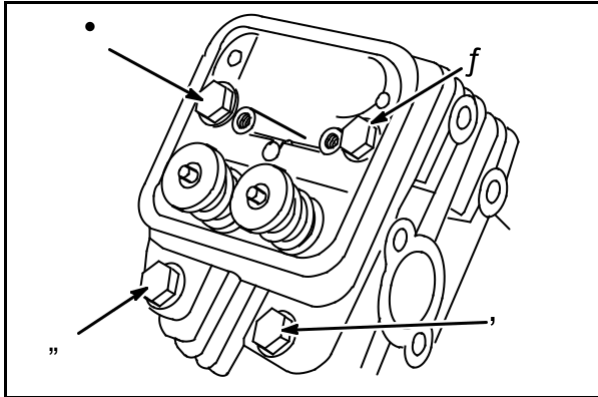

Fig. 20
1. Install cylinder head with NEW gasket, **Fig. 20**.
Torque bolts in the sequence shown, **Fig. 20**, to **165 in. lbs. (19 Nm)**.